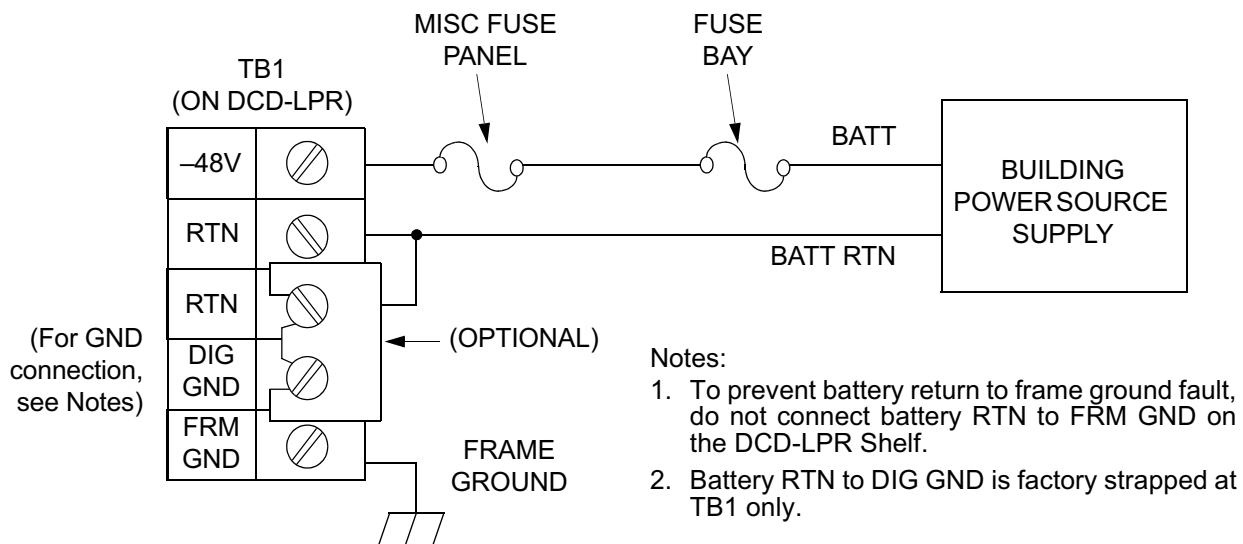

Figure 47. DCD-LPR Ground and Power Connections
4.50 Power and frame grounding connections are made at both the TB1 and TB5 FRM GND terminals on the DCD-LPR backplane. Both terminal blocks are spade lug office battery connections. Use spade lugs designed to accommodate 1.29 mm (16 AWG), 6.3 mm (0.25 inch) width and set with a #6 stud. Figure 47 illustrates the DCD-LPR power and ground connections.
1. Use 1.29 mm (16 AWG) green insulated wire to connect TB1 FRM GND terminal on the shelf backplane (see Figure 47) to rack frame ground. To do this, perform one of the following:
4.55 Power connections are made on TB1 and TB5 (Figure 47). TB1 is for BATT A, and TB5 is for BATT B.